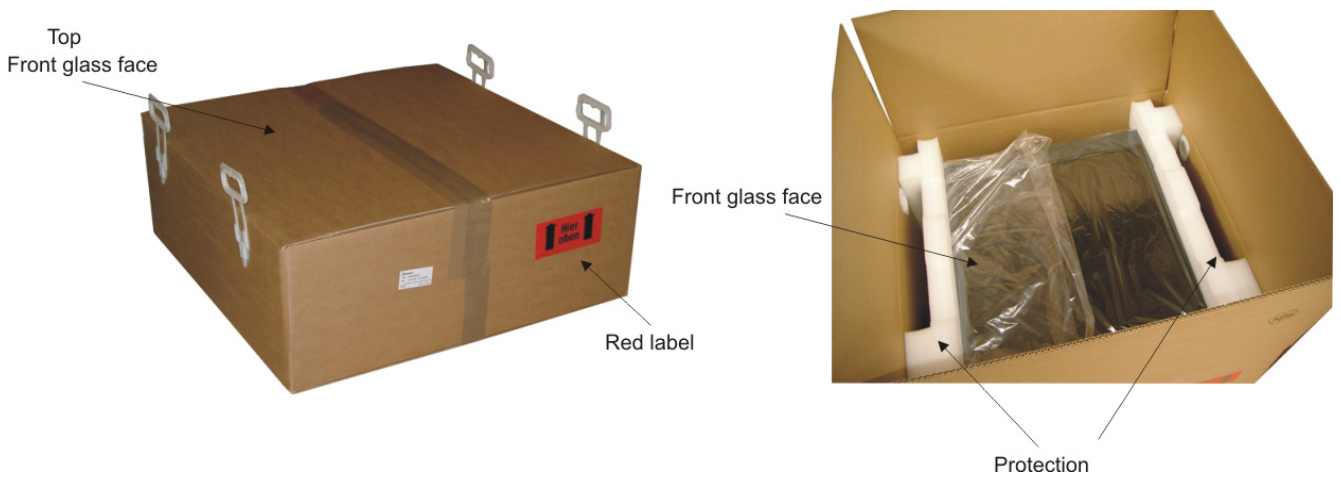
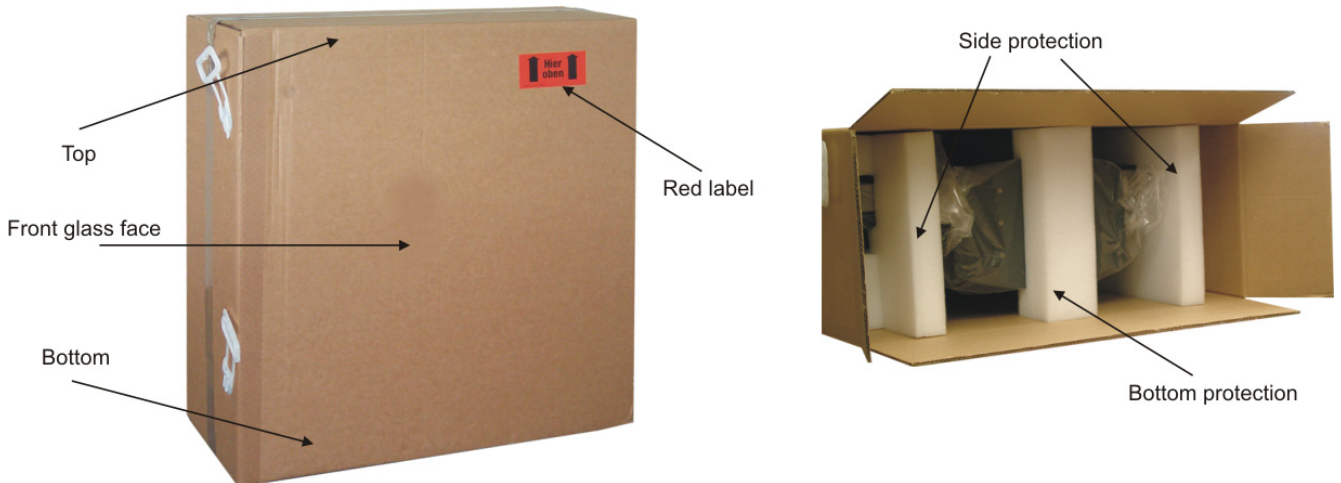

Fig. 1: Package of the chassis and panel mount monitor
Fig. 2: Package of the desktop monitor
**NOTE** To avoid permanent damage, great care should be taken to ensure that the monitor is adequately packed and transported in the correct manner. The original packaging should be retained and re-used for future transportation purposes. The original packaging has a red label with two arrows and text "hier oben" (see Fig. 1 and Fig. 2), which indicates the correct orientation of the package (i.e. when correctly packed this label should be aligned with the top edge and front glass face of the monitor see Fig. 1 and Fig. 2.)
Please note that **the monitor (chassis, desktop and panel mount version) must** only be transported in a **vertical position**. The red label should be at the top of the package. See Fig. 1. and Fig. 2